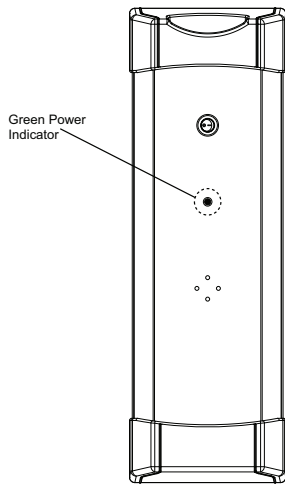

Fig. 19 - Power Indicator (Green LED)
4. The green indicator light above the Air Purifier power switch should illuminate (see Fig. 19).
The Air Purifier is equipped with a power indicator light located on the door (see Fig. 19). This power indicator light will illuminate when the Air Purifier door is installed, the power switch is in the on position, AND the furnace blower is running. If a Flow Sensor Kit (model KIT-160-000) is installed in the Air Purifier and there is no airflow, the power indicator light will blink slowly (once every 3 seconds) indicating that the purifier is in "STANDBY" mode.
NOTE: The green indicator light on door cover shown in Fig. 19, Power Indication (Green LED).